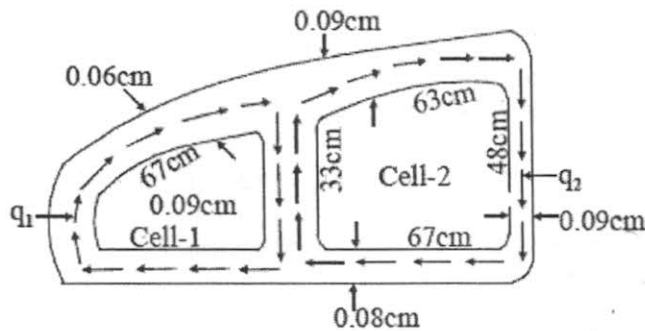

Fig. Q8a
8. a) Fig. Q8a shows a two-cell tubular section as formed by a conventional airfoil shape, and having one interior web. An external torque of 10,000 Nm is acting in a clockwise direction. Determine the internal shear flow distribution. The cell areas are as follows: